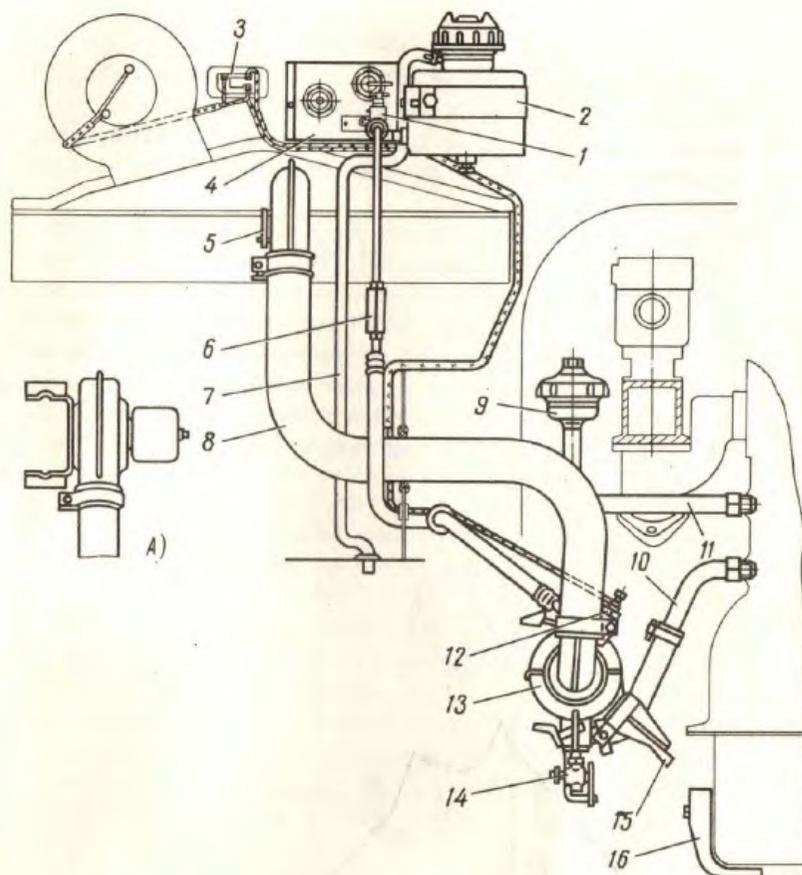
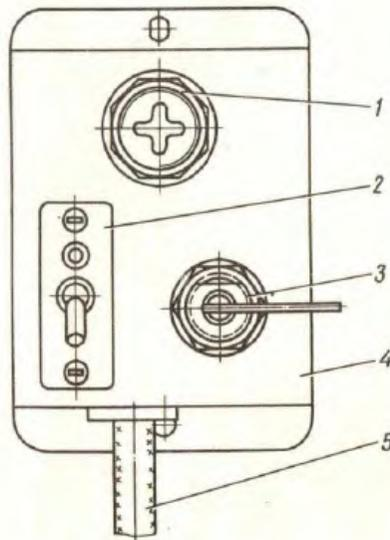

Fig. 71. Engine Heater:
Fig. 72. Engine Heater Control Panel:
The heater burns the same grade of petrol as the engine. The construction of the engine heater is shown in Fig.71.
The operation of the boiler is controlled by shutoff valve 1, air flap 5, fan switch 2 (Fig.72) and igniter plug switch 3. The
4. Open heater air flap 5 (Fig.71).
7. Set switch 2 (Fig. 72) to high fan speed for 15-20 sec.
9. Back off fuel valve 1 (Fig.71) by two turns, wait 3-5 sec and set switch 2 (Fig.72) to low fan speed. If the fan fails to run at low speed (this may happen at air temperatures of -30°C and below), switch over to high speed at intervals of 2-5 sec.